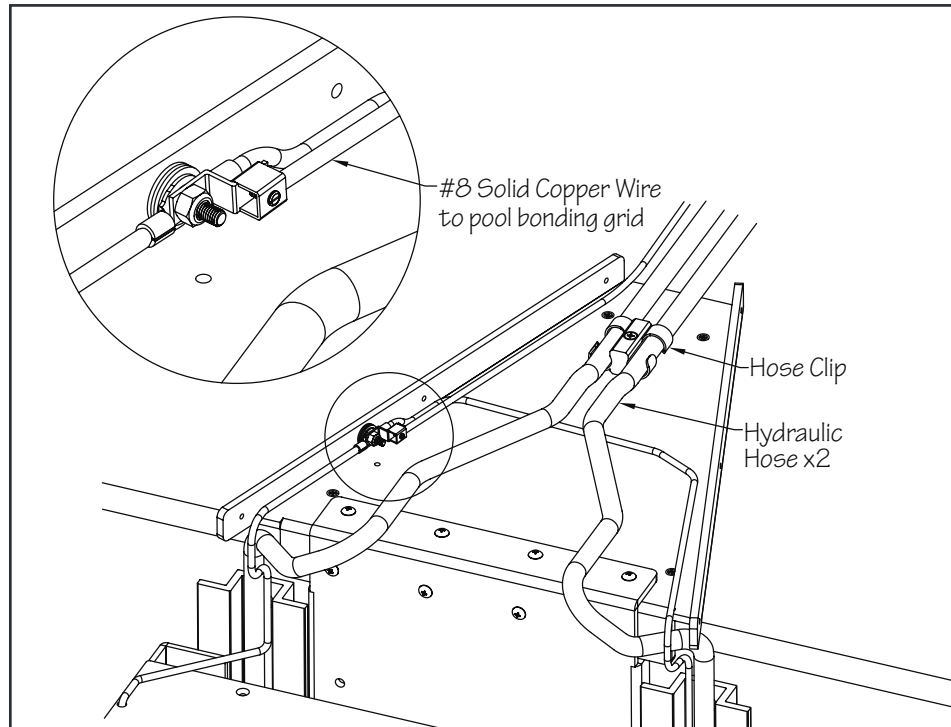

Fig. 9.5
9.5 Attach a length of #8 solid copper wire (provided locally) to the bonding lug. This wire **MUST** be incorporated into the pool's bonding grid. Route the hydraulic hoses into the deck plate bottom and out the rear. Pull any excess hose out of the pool and plate. A hose clip is provided to secure the hoses. Feed each hose into the clip and then secure the clip to the plate (Fig. 9.5).